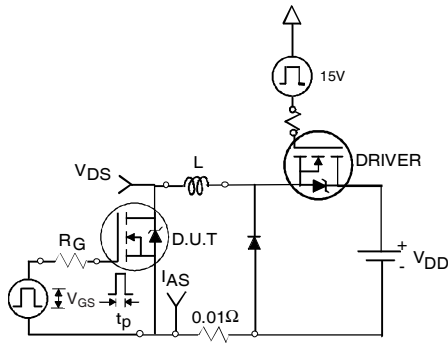

Fig 12a. Unclamped Inductive Test Circuit
- ③ Pulse width $\leq 1.0\text{ms}$; duty cycle $\leq 2\%$.
- ④ $C_{oss \text{ eff.}}$ is a fixed capacitance that gives the same charging time as C_{oss} while V_{DS} is rising from 0 to 80% V_{DSS} .
- ⑤ Limited by T_{Jmax} , see Fig.12a, 12b, 15, 16 for typical repetitive avalanche performance.
- ⑥ This value determined from sample failure population. 100% tested to this value in production.
- ⑦ This is only applied to TO-220AB package.
- ⑧ This is applied to D²Pak, when mounted on 1" square PCB (FR-4 or G-10 Material). For recommended footprint and soldering techniques refer to application note #AN-994.
- ⑨ R_θ is measured at T_J of approximately 90°C .
- ⑩ Calculated continuous current based on maximum allowable junction temperature. Bond wire current limit is 75A. Note that current limitations arising from heating of the device leads may occur with some lead mounting arrangements.
3. Equation below based on circuit and waveforms shown in Figures 12a, 12b.